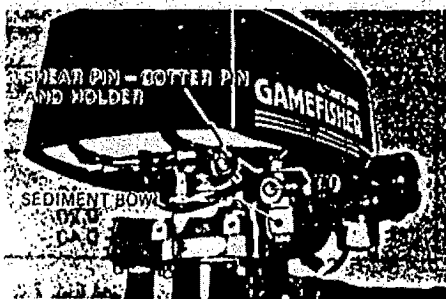

Figure 12
- b. Periodically check filter for dirt by unscrewing Sediment Bowl. (See Figure 12)
- c. Replace with new shear pin located in shear pin and catter pin holder. (See Figure 12).